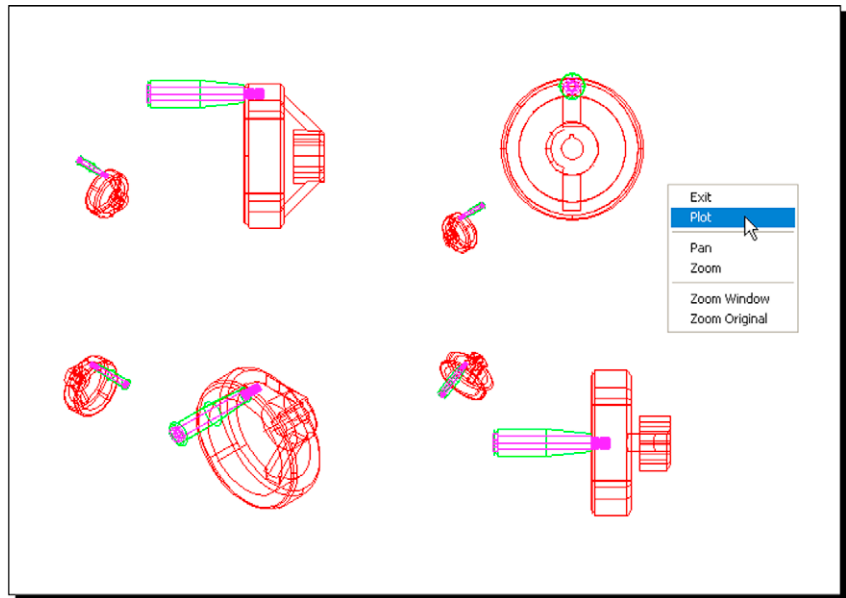

Fig. 19.15 Polygonal viewports – plot preview after **vports** layer is off
12. Click the **Plot** icon. Make plot settings in the **Plot** dialog. Click on the **Preview** button of the **Plot** dialog. The **Preview** appears (Fig. 19.15).